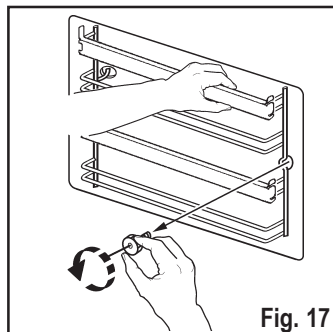

Fig. 17
1. remove the front screw while keeping the shelf support in position with the other hand (Fig. 17).